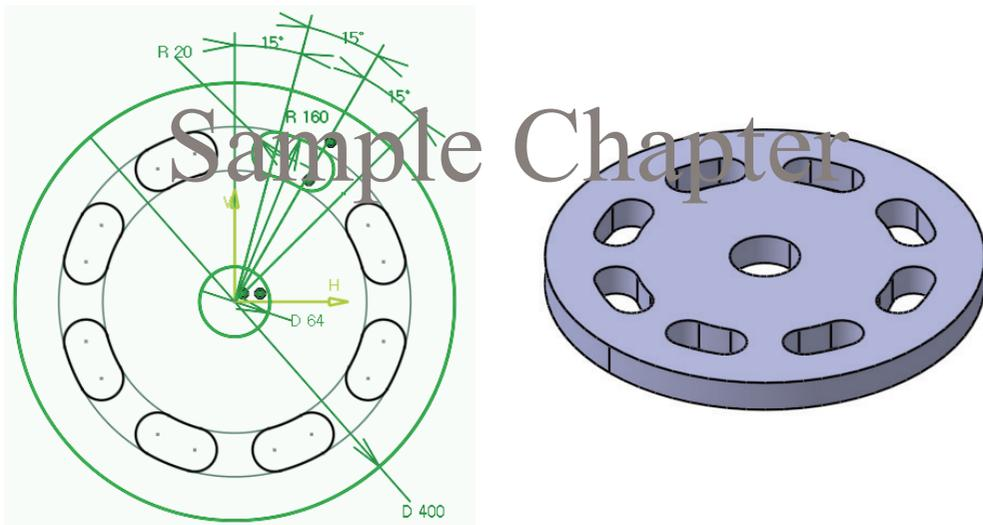

Fig 8-3 Creating a Part (Full Model)
1. Create a sketch as shown in Fig 8-3 on the xy plane and **Pad** it by 15 mm along both sides. Choose **Mirrored extent** option.